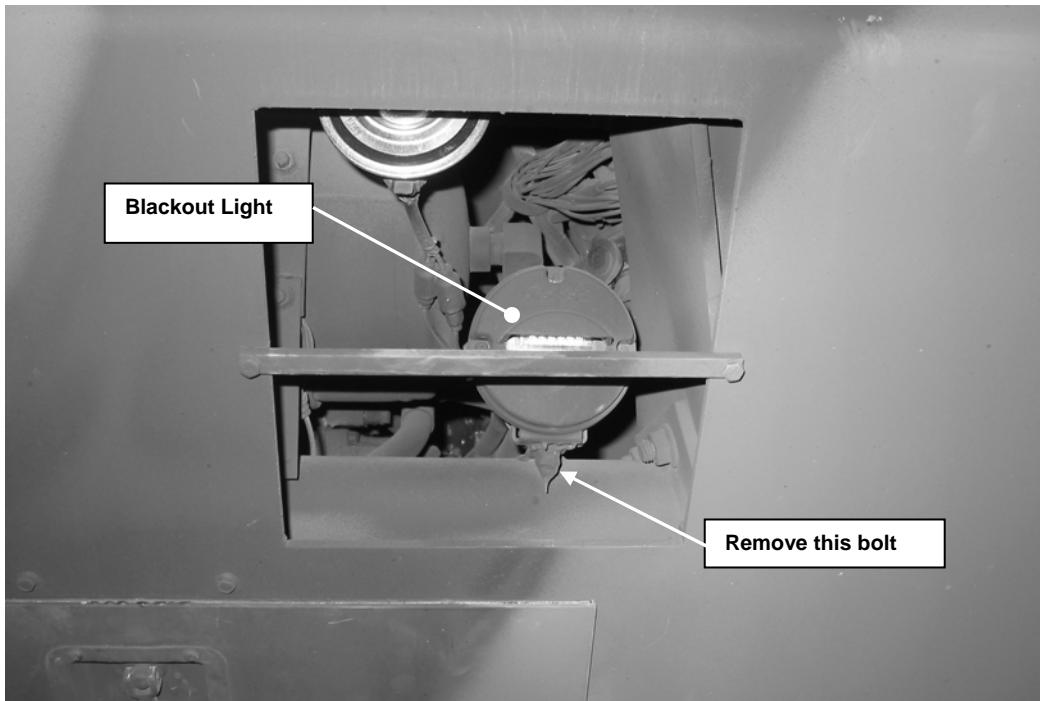

Figure 7. Blackout Light.
- g) Remove the Blackout Light attached to a bracket located in front of the vehicle (see Figure 7). This is done by removing a bolt located under the light. Disconnect the connector on the electrical wire that leads to the light. The connector is located approximately 8 in. from the Blackout Light. Do not disconnect the wire were the wire enters the light's housing.